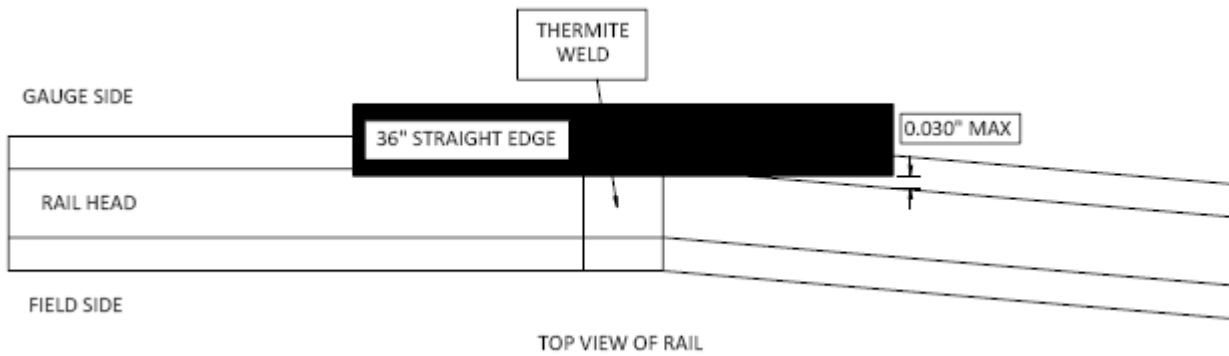

Fig. 30.5 - Horizontal Offset & Kink to Gauge
- b. Combined horizontal offset and kink should not exceed thirty thousandths (0.030) of an inch on the gauge side of the head when kinked to gauge. (Figure 30.5).